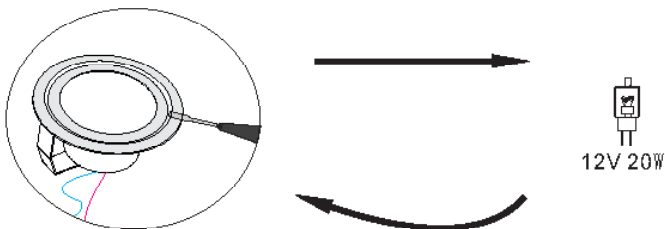

Fig. 2
3. Using a small, flat-head screw driver pop off the glass plate. See Fig. 2 above.